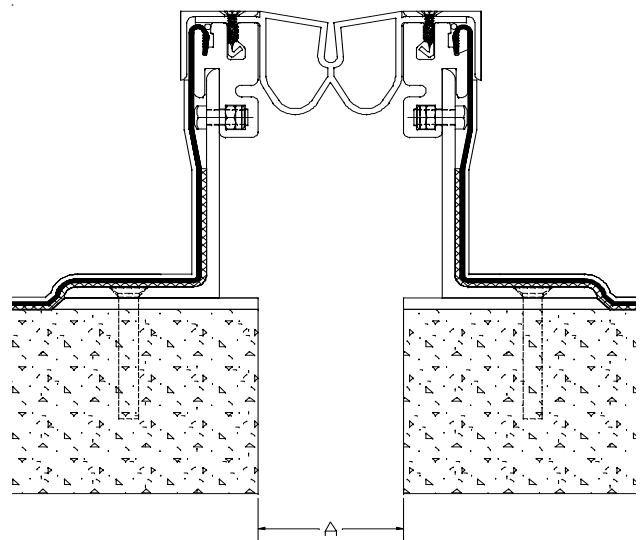

Figure 9
**STEP 10.** Select the SS Cap Angles and the Cap Angle Anchors. Place each Cap Angle into its installed position over the Seal's wings and atop the Base Members, and attach each Cap Angle to its respective Base Member using the anchor provided by the factory (see Figure 9).